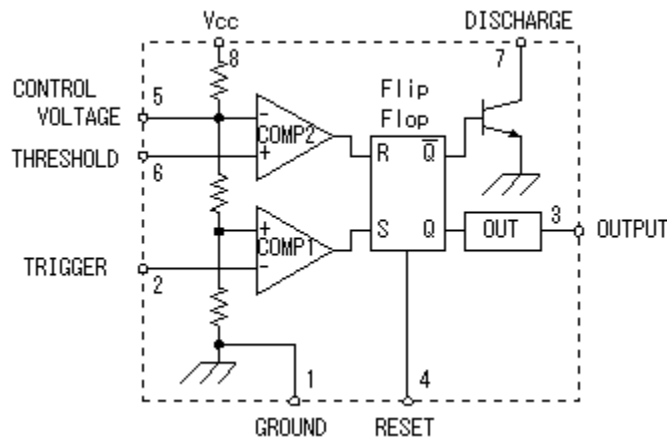

Fig 2. The functional diagram for 555 IC timer.
- The figure 2 The functional diagram for 555 IC timer consist of 3hree 5 kΩ internal resistors act as voltage divider, providing bias voltage of $(2/3) V_{CC}$ to the upper comparator (UC) and $(1/3) V_{CC}$ to the lower comparator (LC), where V , is the supply voltage.